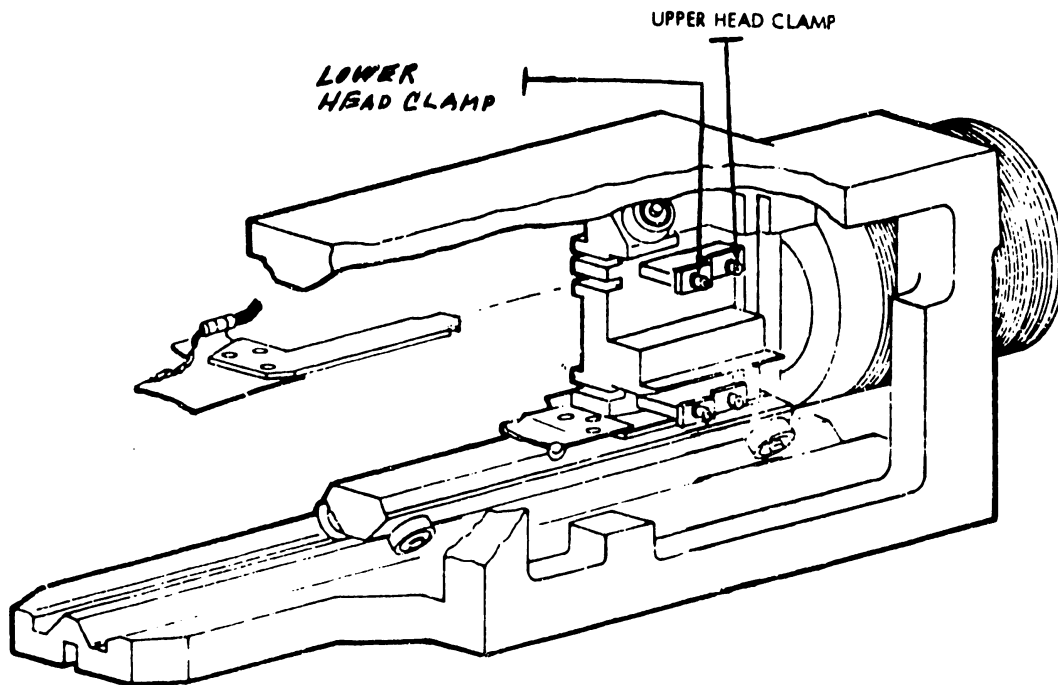

FIGURE 4-66 HEAD CLAMP SCREWS
20. Loosen the selected head clamp screw for the upper head (Figure 4-66). Using head alignment tool (WLI Part #726-9647), adjust the selected head to obtain the signal shown in Figure 4-64. Tighten the upper head clamp and torque to $3.6 \pm .05$ inch-lbs.
22. Perform steps 19 and 20 for lower head, using the lower head clamp screw for adjustment (Figure 4-66) if necessary.